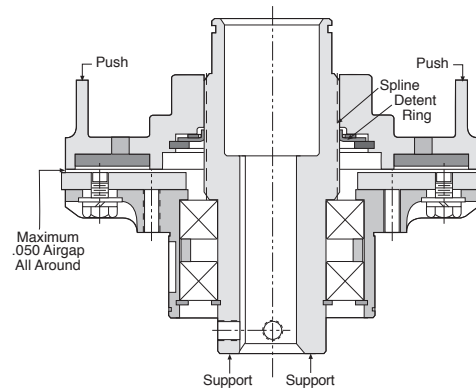

Figure 46
21. Install the rotor assembly onto the hub (Item 7) making sure that the spline teeth are aligned. (See Figure 46)